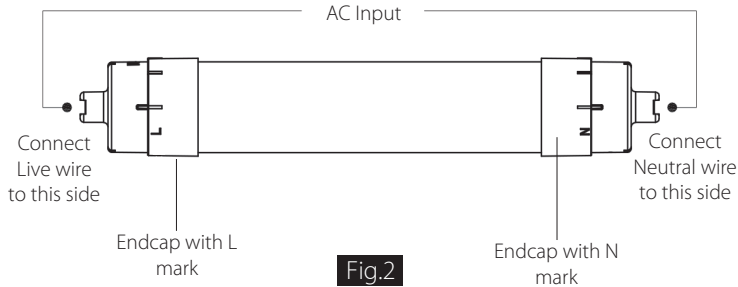

Fig.2
10. Connect Live and Neutral wires accordingly. (Fig.2)